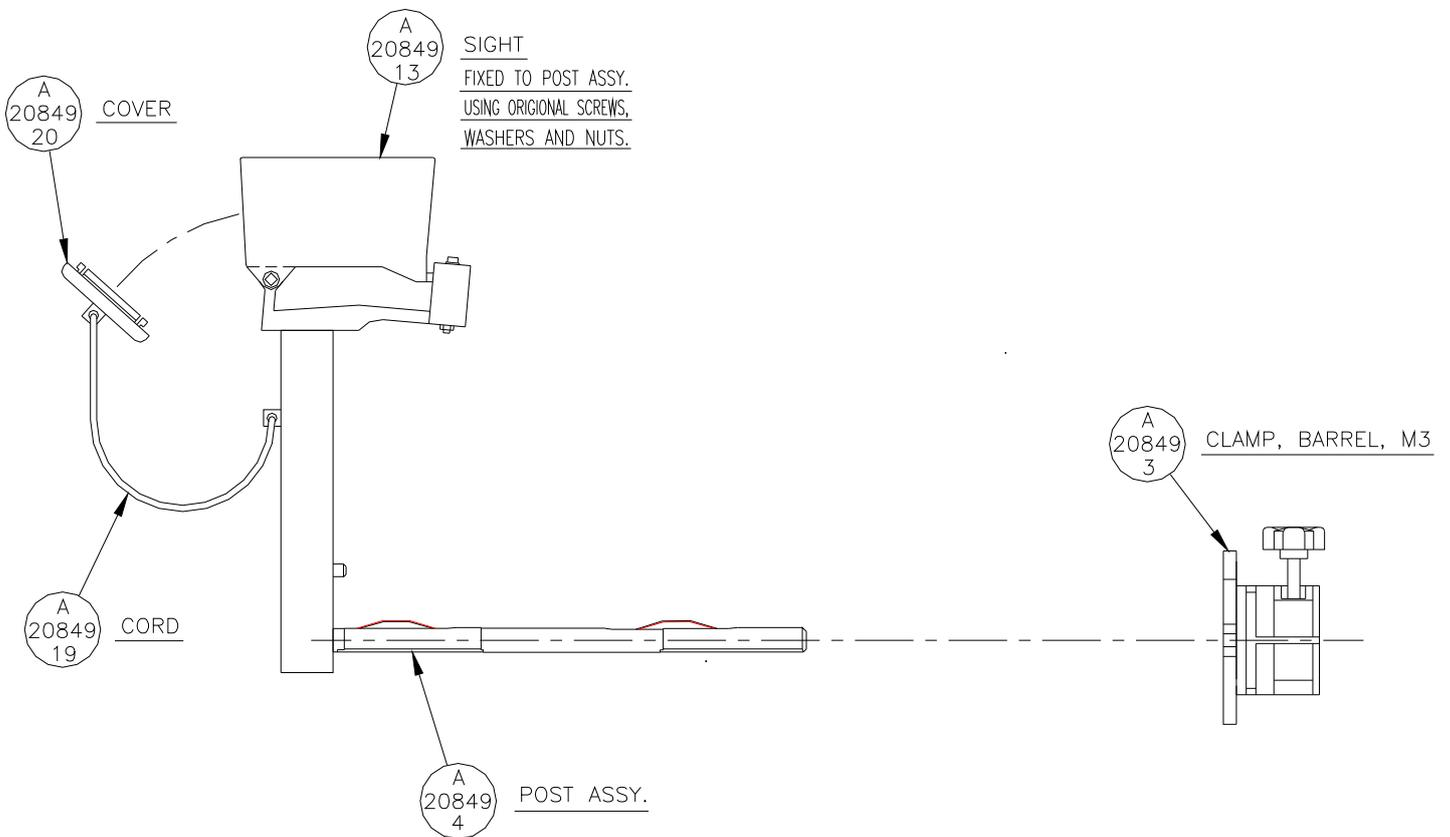

Fig 2 Parts list for DZD-M3M-01 & M2-01
8. The DZD-M3M and M2-01 with their assembly part numbers are illustrated at Fig 2